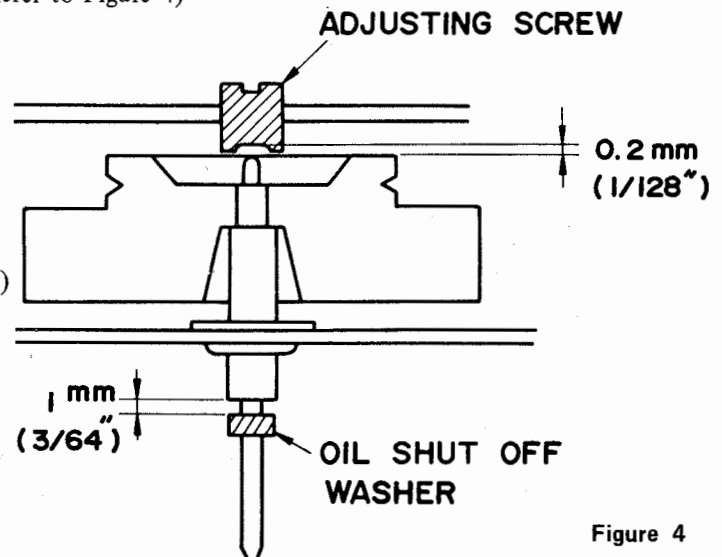

Figure 4
**FLYWHEEL THRUST CLEARANCE ADJUSTMENT (Refer to Figure 4)**